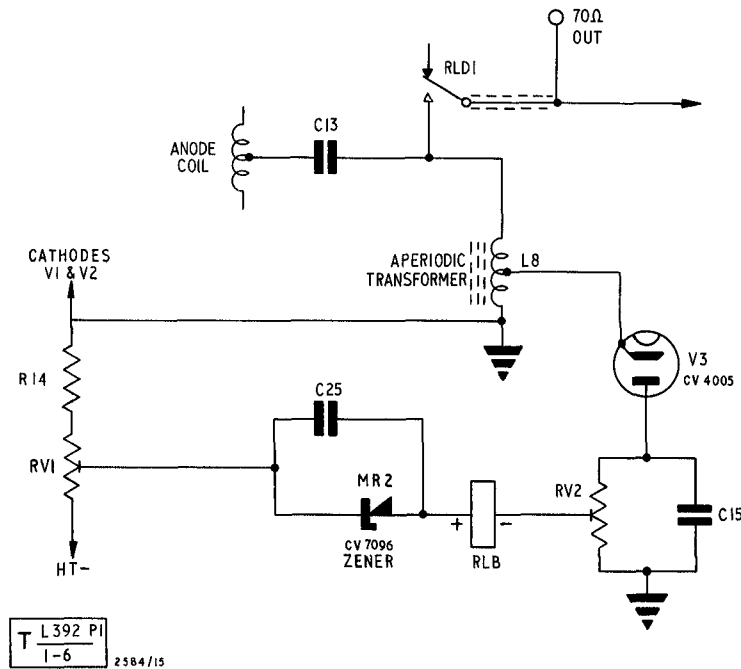

Fig 6 - Simplified overload detection circuit
39. The circuit will trip when the efficiency is either too high or too low, but it has a strong bias towards tripping on low efficiency. Tripping on high efficiency is necessary to prevent overheating the anode coils. A simplified diagram of the overload detection circuit is shown in Fig 6.